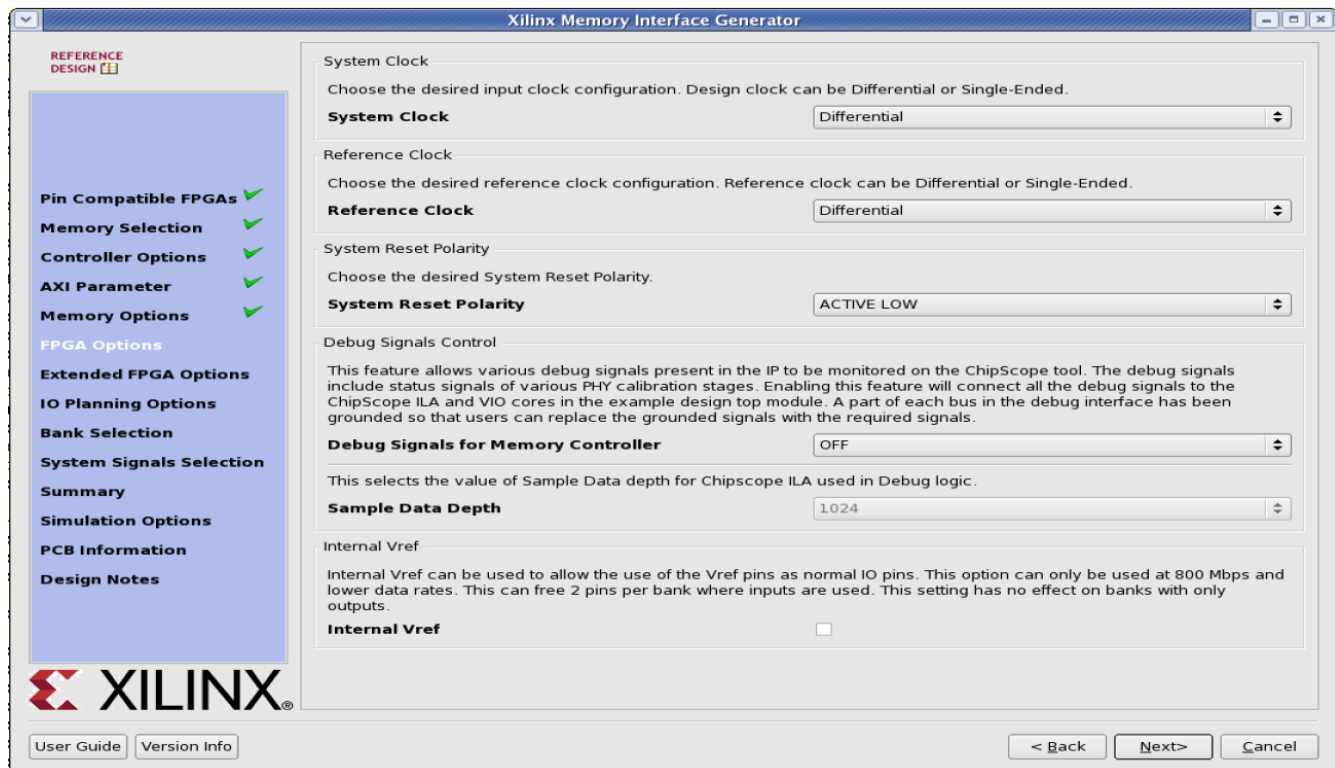

Figure 2-21: **FPGA Options Page**
Figure 2-21 shows the **FPGA Options** page.
- sys_clk** – This is the system clock input for the memory interface and is typically connected to a low-jitter external clock source. Either a single input or a differential pair can be selected based on the **System Clock** selection in the **FPGA Options** page (Figure 2-21). The **sys_clk** input must be in the same column as the memory interface. If this pin is connected in the same banks as the memory interface, the MIG tool selects an I/O standard compatible with the interface, such as DIFF_HSTL_I or HSTL_I. If **sys_clk** is not connected in a memory interface bank, the MIG tool selects an appropriate standard such as LVCMOS18 or LVDS. The XDC can be modified as desired after generation.
- clk_ref** – This is the reference frequency input for the IDELAY control. This is a 200 MHz input. The **clk_ref** input can be generated internally or connected to an external source. A single input or a differential pair can be selected based on the **System Clock** selection in the **FPGA Options** page (Figure 2-21). The I/O standard is selected in a similar way as **sys_clk** above.
- **sys_rst** – This is the asynchronous system reset input that can be generated internally or driven from a pin. The MIG tool selects an appropriate I/O standard for the input such as LVCMOS18 and LVCMOS25 for HP and HR banks, respectively. The default polarity of `sys_rst` pin is active-Low. The polarity of `sys_rst` pin varies based on the **System Reset Polarity** option chosen in **FPGA Options** page (Figure 2-21).